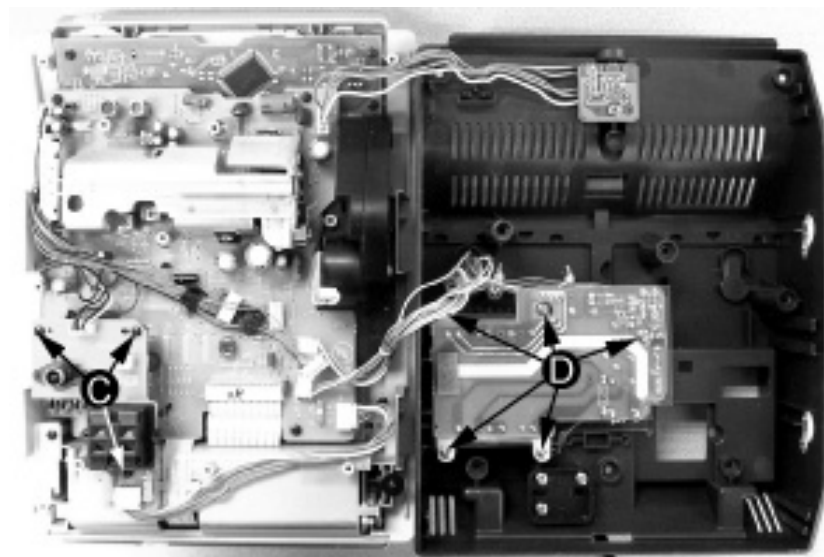

Figure 3
- 3) Loosen 3 screws C to remove the SP & ANT Jack Board as shown in figure 3.
- 4) Loosen 5 screws D to remove the Power Module as shown in figure 3.